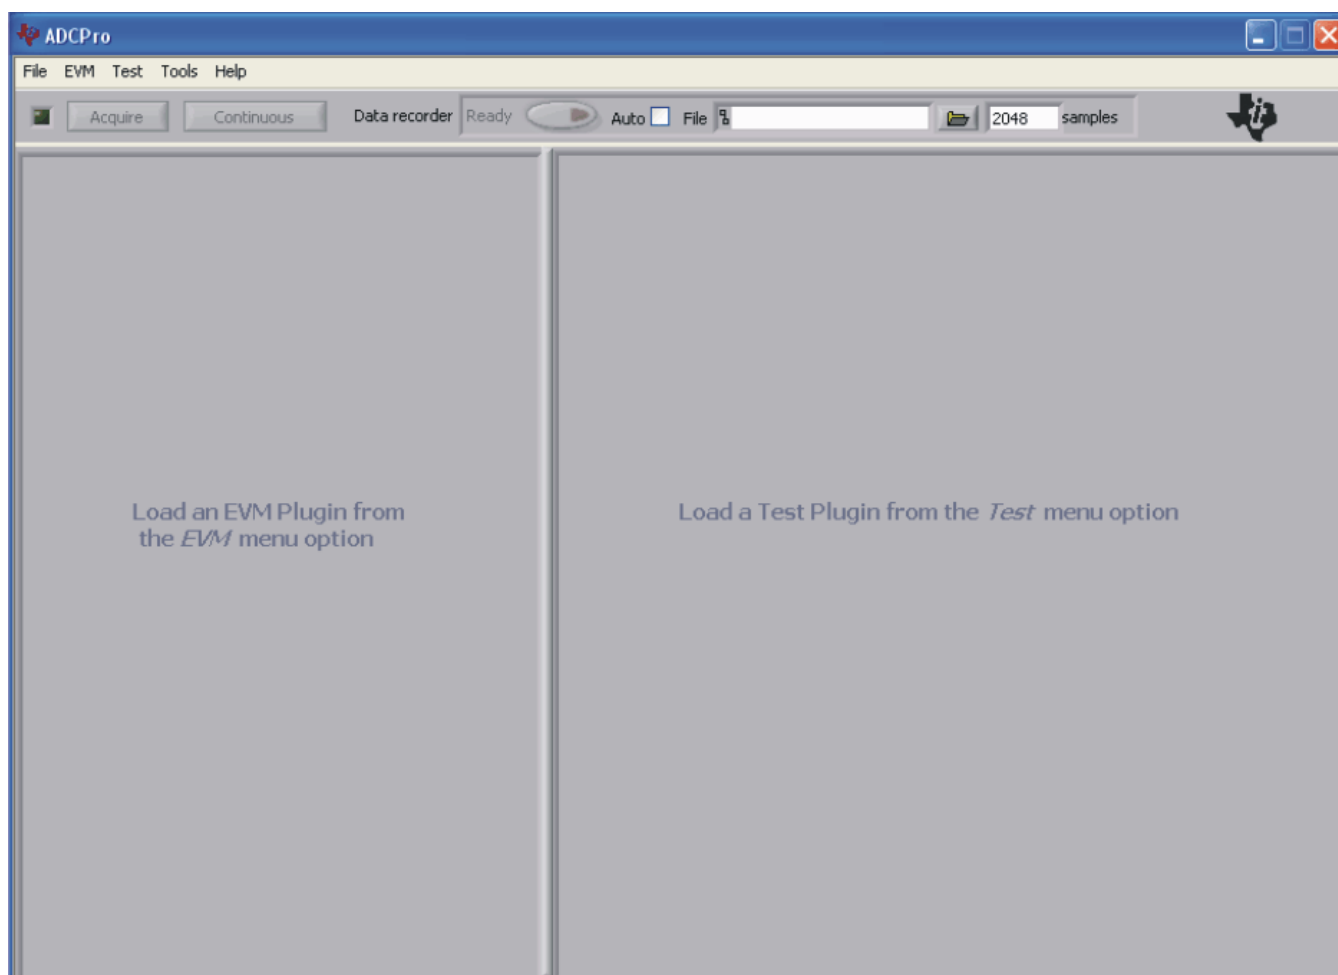

Figure 22. ADCPro Software Start-up Display Window
1. Start the software by selecting *ADCPro* from the Windows Start menu. The screen in Figure 22 appears.